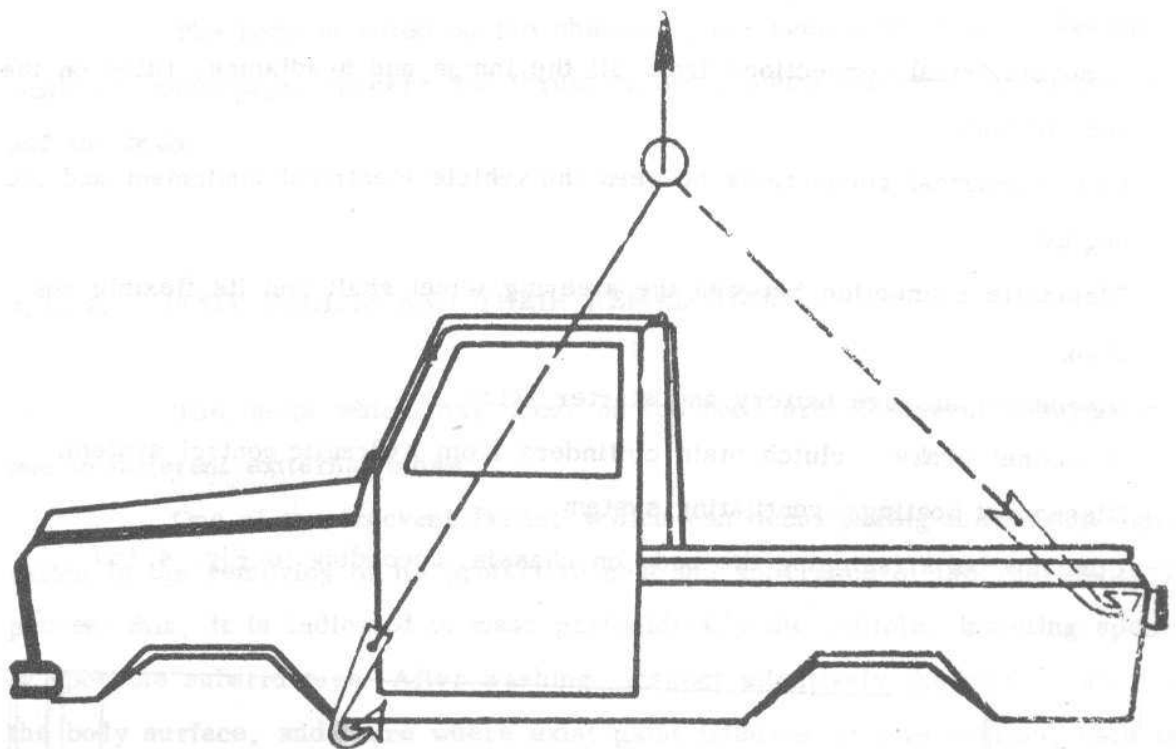

Fig. 4.161. FASTENING VEHICLE BODY BY MEANS OF D 151 LIFTING DEVICE.
- Fasten the body with D 151 lifting device, as shown in the Fig. 4.161, lift the body and set it on a storage place.